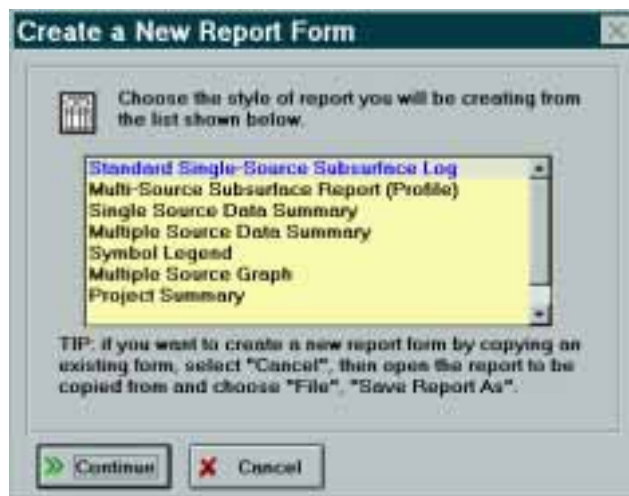

Figure 2.13 -- New Report Form Dialog
3. From the Create a New Report Form dialog (Figure 2.13) select the type of form you want to create.